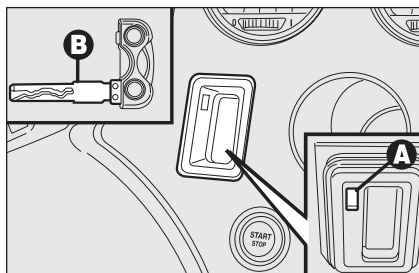

fig. 1
- fit the metal insert **B-fig. 1** of the electronic key into the slot **A**;
**IMPORTANT** Only fit the metal insert **B-fig. 1** of the electronic key into slot **A**.